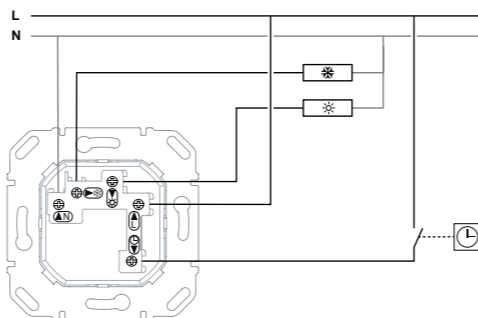

Figure 3: Connection plan for thermostat, change-over contact
- Connect the controller according to connection diagram (Figure 3 or 4).